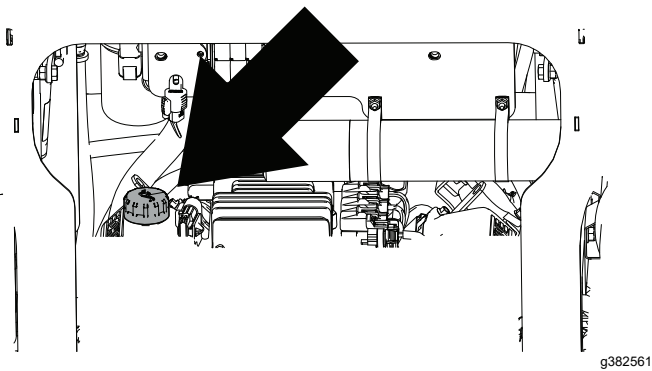

Figure 33
8. Remove the oil fill cap on the engine (Figure 33).